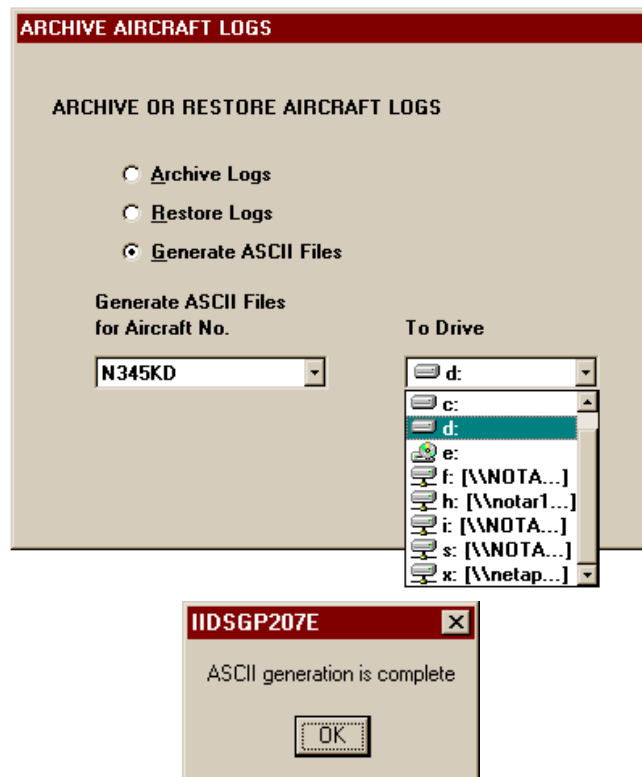
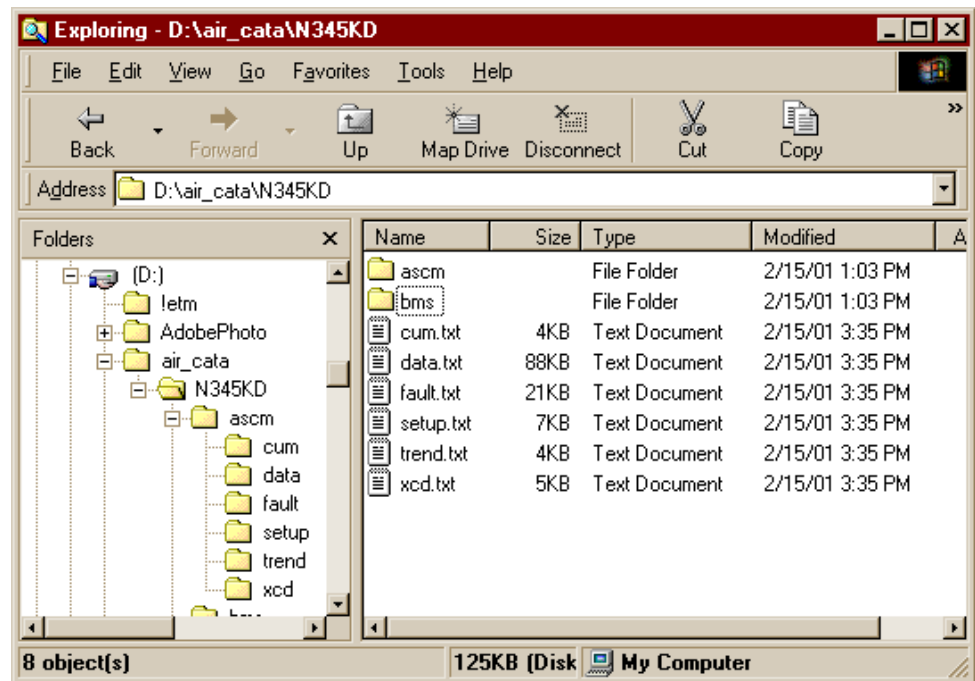

Figure 51. Generate ASCII Aircraft Logs Screens
Figure 52. Generated ASCII Files Location
3. In the Archive Or Restore Aircraft Logs Screen select "Generate ASCII Files" (refer to Figure 51). .. The generated ASCII files will be written to the target disk in the following directory(refer to Figure 52): D:\air_cata\N345KD where "D:\\" is the target drive.